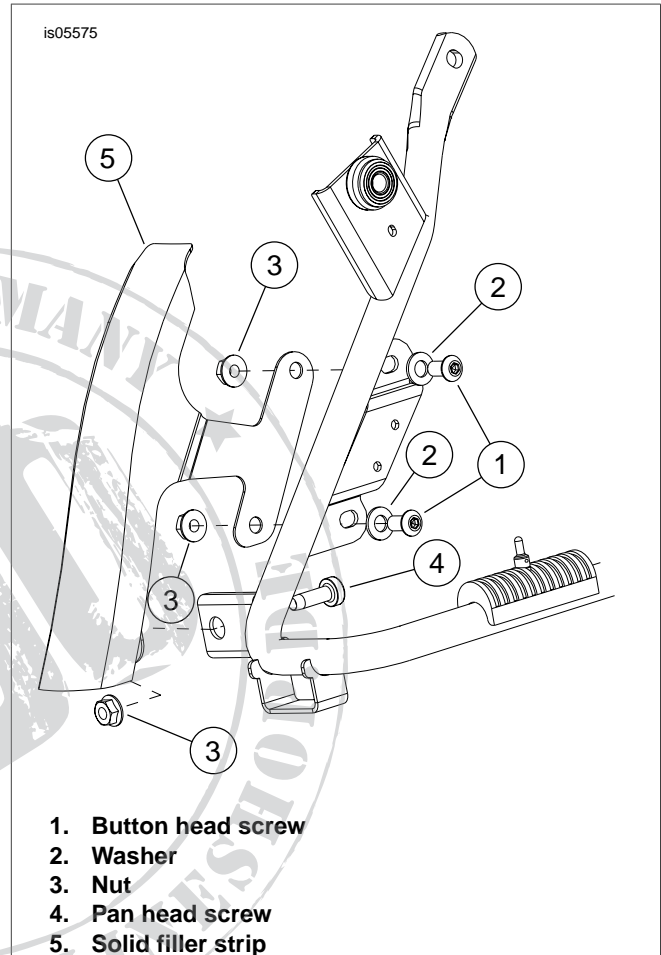
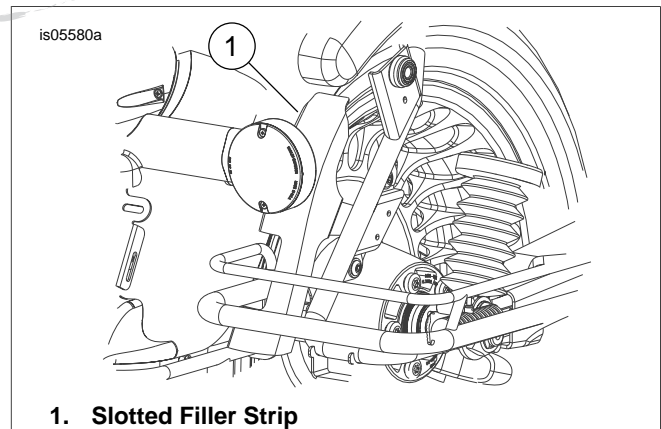

Figure 1. Solid Filler Strip Installation
Figure 2. Slotted Filler Strip
3. Figure 1. For solid filler strips align as shown in Figure 1. Figure 2. For slotted version align as shown in Figure 2 after assembling Nostalgic saddlebag rails.
4. Insert screw (1) and washer (2) into bottom mounting hole in top bracket. Start flange nut (3) onto back side of screw and tighten finger tight.
5. Figure 1. **Solid Filler Strips:** Feed screw (4) through bottom exhaust mounting bracket on the saddlebag support for solid filler strips, note screw orientation. Figure 2. **Slotted Filler Strips:** For slotted version, when used with Nostalgic Saddlebag Rails, reuse the bottom mounting hardware supplied with the rails.